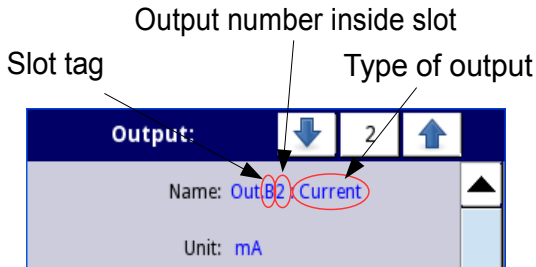

Fig. 7.83. Description of **Name** parameter in **Built-in outputs** menu
- **Name** - each output already has a name given by the device and the user cannot change it, for the description of the **Name** parameter see **Fig. 7.83**,
- **Name** – each output already has a name given by the device and the user cannot change it - see **Fig. 7.83**,
- **Name** – each output already has a name given by the device and the user cannot change it - see Fig. 7.83,